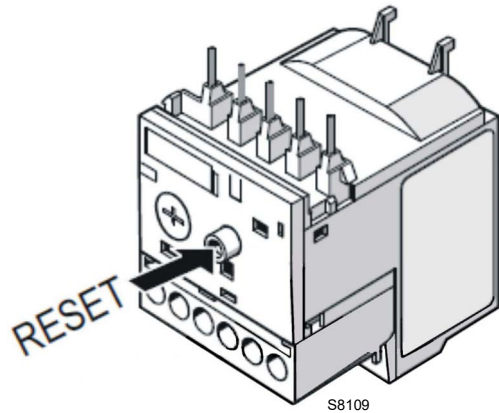

Fig. 29
- To reset, in the case of an intervention of the electronic relay, press the button **"RESET"** (Fig. 29).